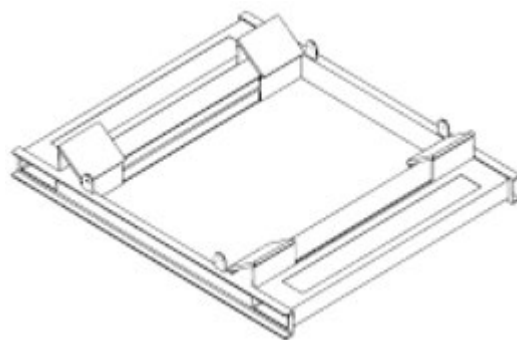

Figure 8: Example Special-purpose Steel Cradle
- ✓ All full reels **MUST** be transported in specially manufactured steel cradles as per BBRG drawings 2727 and 39808 – See Figure 8.